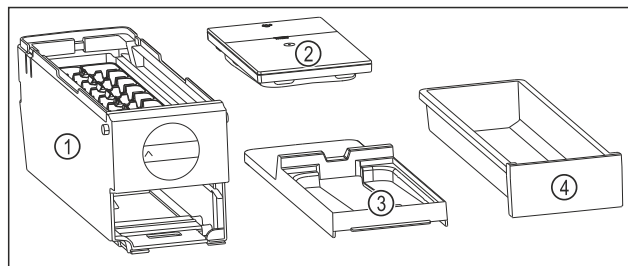

Fig. 138 Components of the EasyTwist-Ice
- EasyTwist-Ice is dismantled into four parts. (see Fig. 138)
- Only dismantle the EasyTwist-Ice into the components shown. (see Fig. 138)
- Clean the EasyTwist-Ice body Fig. 138 (1) as a whole.